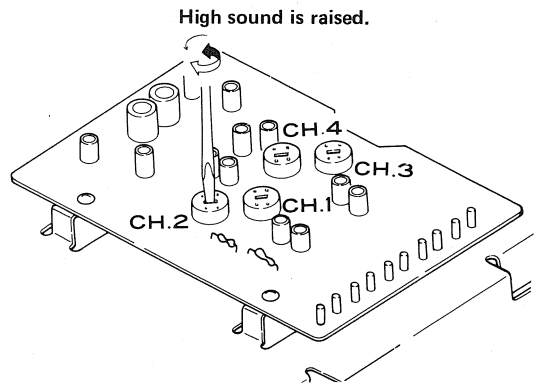

Fig. 25
4. Play the test tape "312" (3,000Hz), and adjust the output level to the output level of playing the 400Hz test tape by turning the potentiometers on the preamplifier unit (Fig. 25).